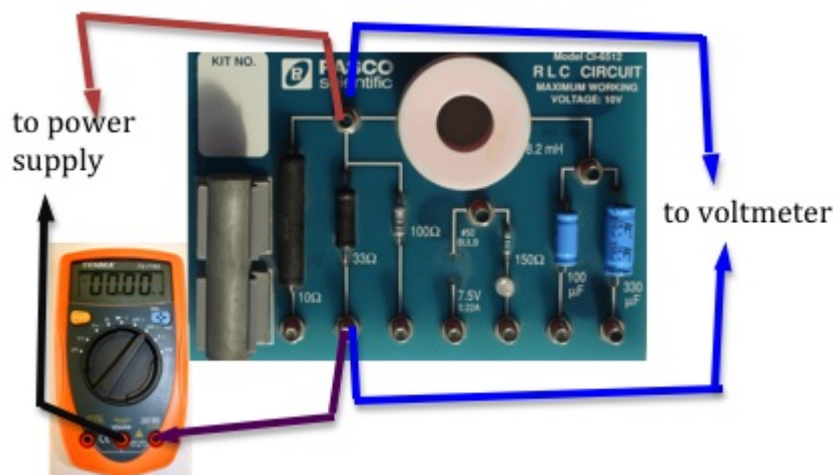

Figure 7: Circuit diagram for the 33- $\Omega$  resistor
- 10 Disconnect the first resistor and connect the second resistor as shown in Fig. 7.